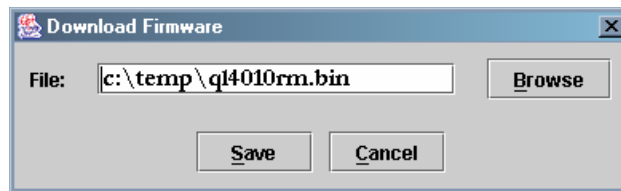

Figure 117 Download Firmware dialog box
3. In the dialog that appears, as shown in Figure 117, type in the path to the firmware file that you want to load to the adapter, and click **Save**.